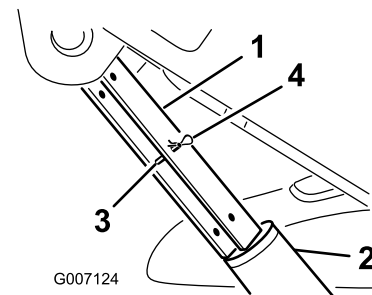

Figure 30
5. Place the cylinder lock over the cylinder rod and secure it with the clevis pin and hairpin cotter (Figure 30).